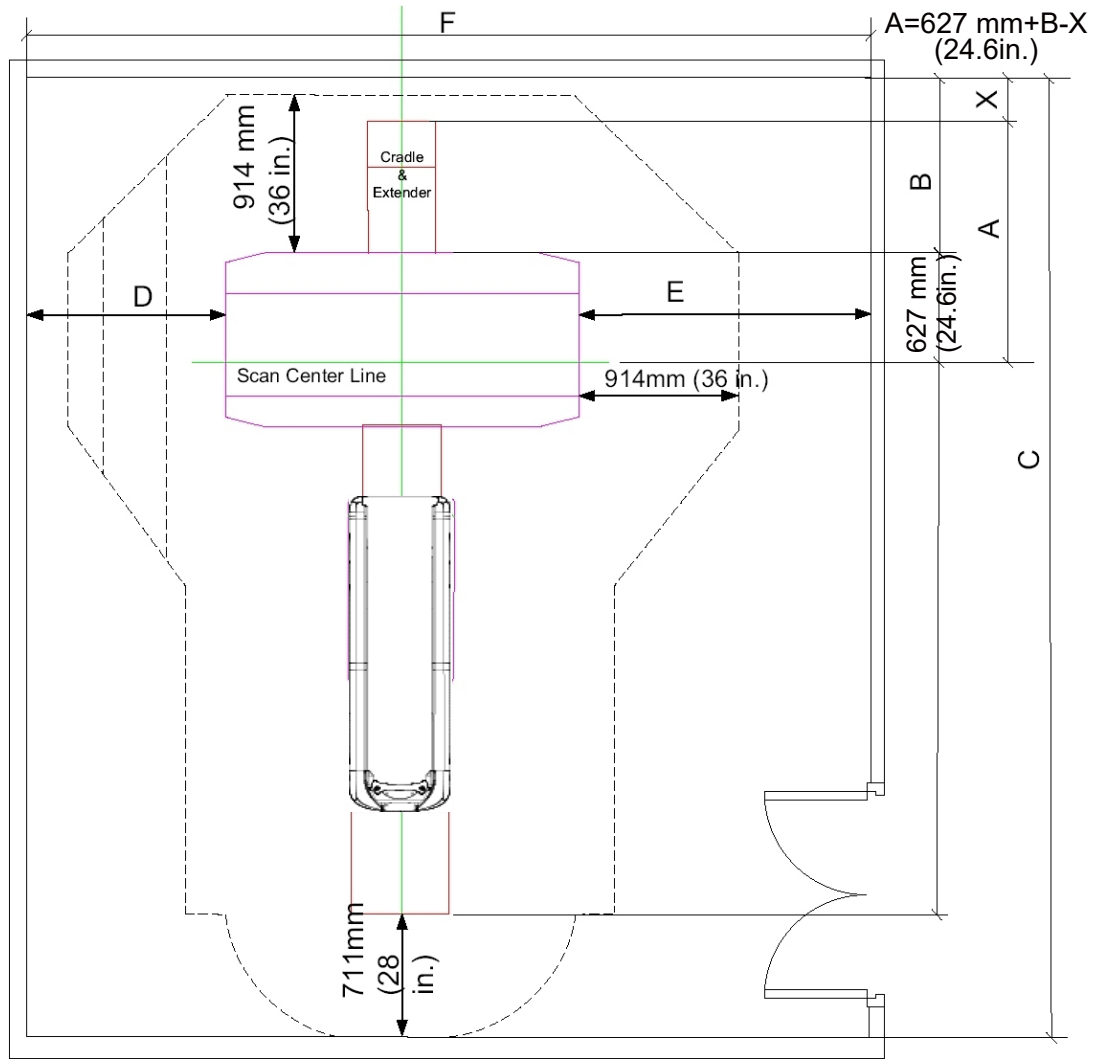

Figure 7-2 Short Footprint Calculation diagram
- 1.) Refer to Figure 7-2, use floor template with ruler to prearrange the layout and calculate the cradle scannable limitation (A).
- 3.) Record the distance from cradle limitation to wall (X) and cradle scannable limitation (A) for installation.